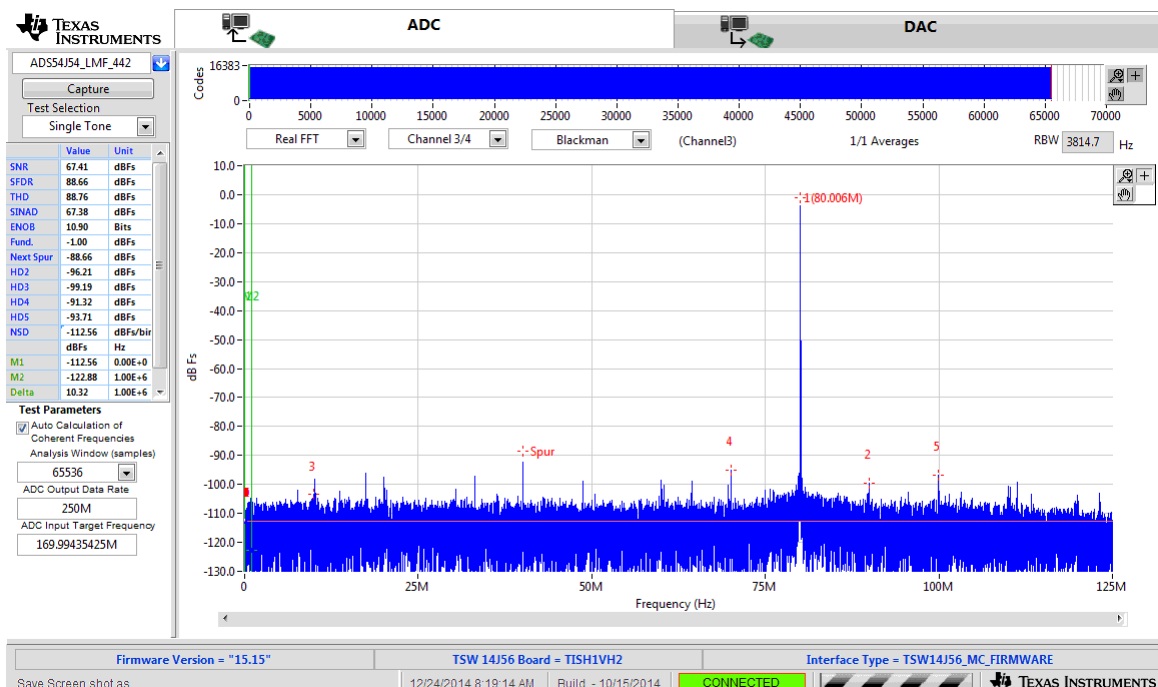

Figure 11. High Speed Data Converter Pro (HSDC Pro) Sample Capture
7. All boards and software are now setup. Click the **Capture** button. A sample capture is shown in Figure 11 for the ADS54J54 with a 250-MHz clock and 170-MHz input frequency.